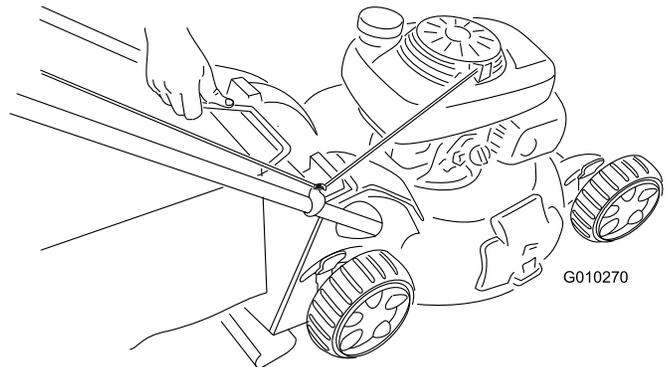

Figure 29
2. Lift the grass-bag handle out from the grooves at the top of the machine, and remove the bag from the machine (Figure 29).